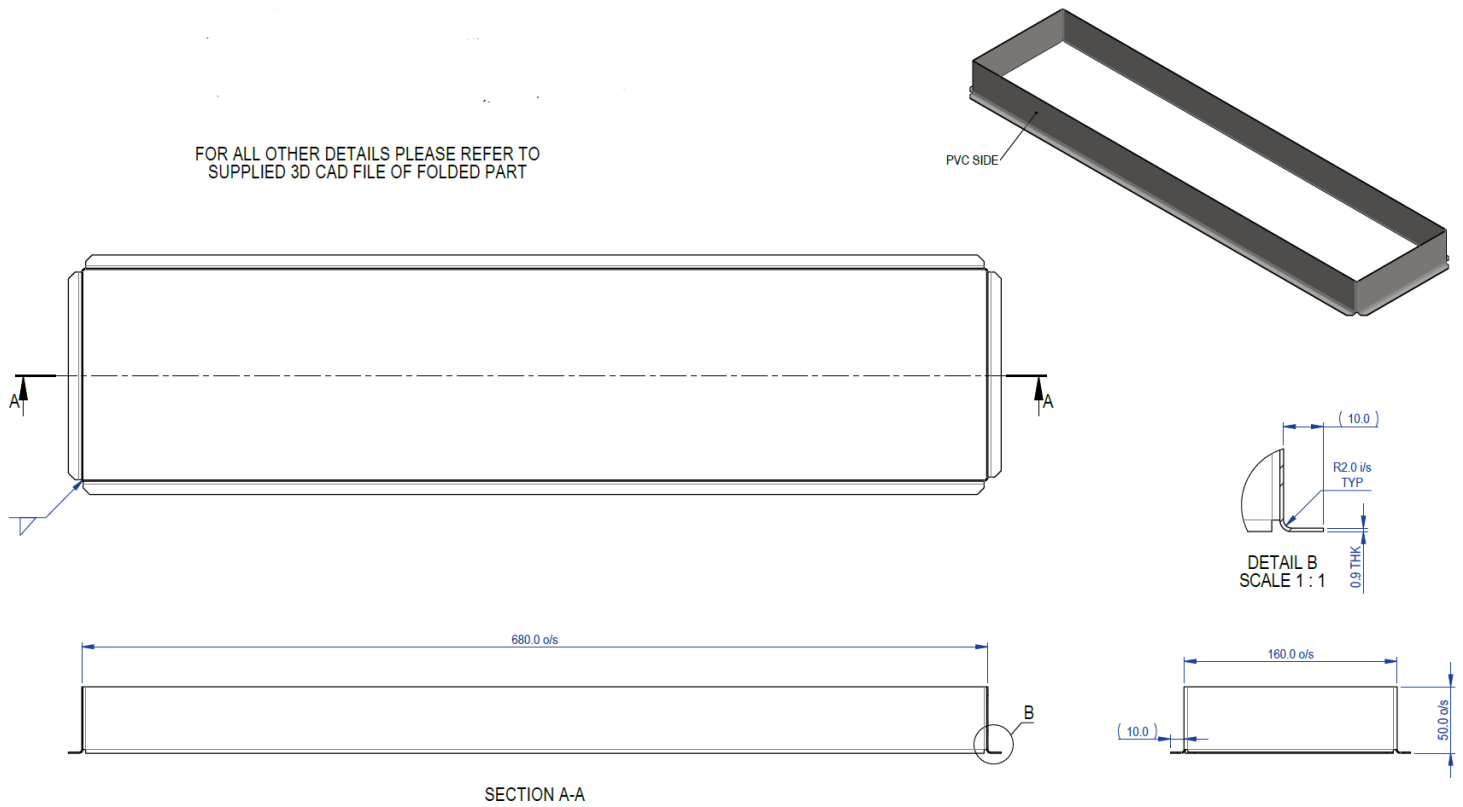
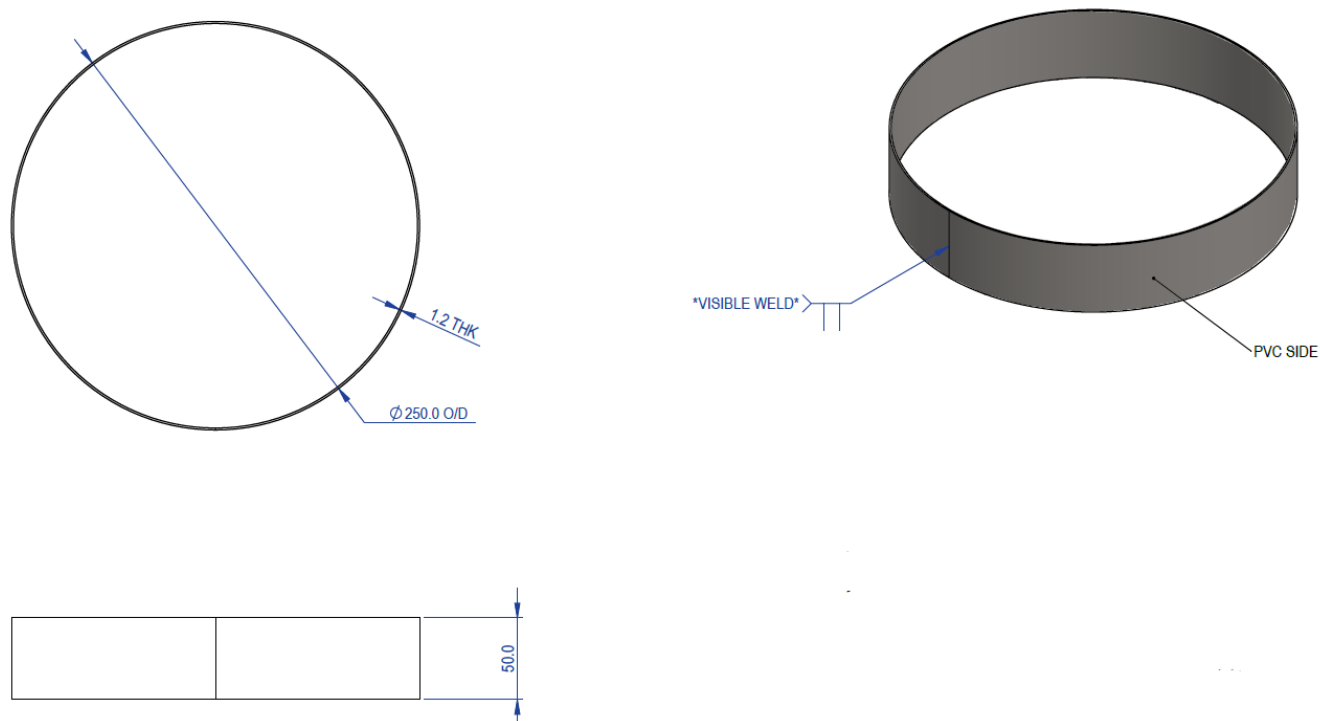

Figure 7
Figure 8
5.1.3 Details of standard hood connection spigots are shown in Figure 7 and Figure 8